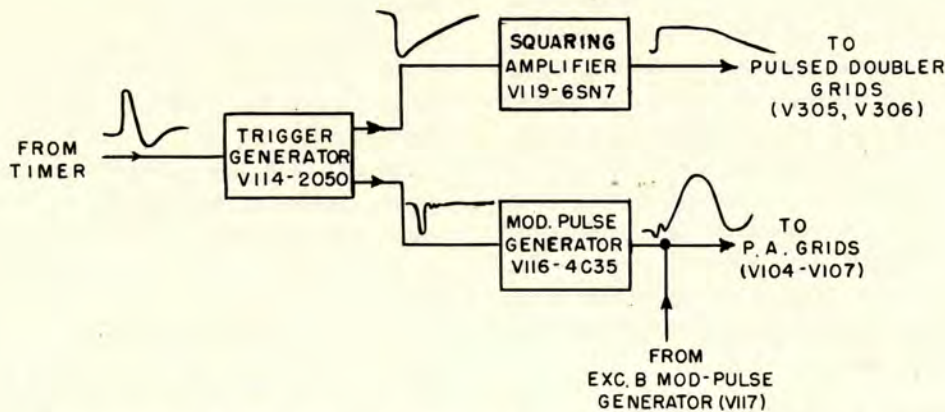

Figure 2-3. Block Diagram of Pulse-Forming Circuits (Part of Exciter A)
b. TRIGGER PULSE. — An oscillogram of the triggering pulse supplied to the pulse former from the external timing equipment is shown in figure 7-1; a facsimile of this waveform is shown on the block diagram of figure 2-3. The characteristics of this pulse as controlled by the timing equipment are tabulated in paragraph 2 of this section and, in greater detail, in the timer instruction book.
c. BLOCK DIAGRAM. — Figure 2-3 shows the three stages of the pulse-forming section. The symbol designations used pertain to Exciter A. For the equivalent designations in Exciter B, refer to the transmitter schematic, figure 7-38.